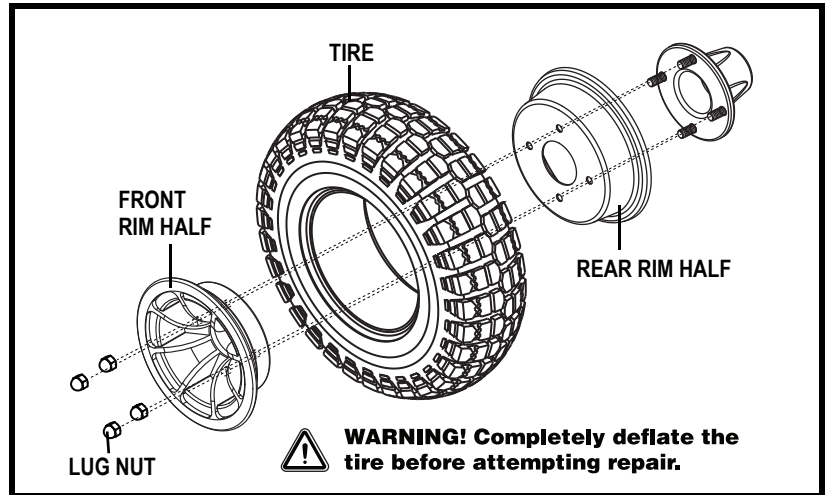

Figure 19. Quantum/Jazzy 1450 Series Drive Wheel Disassembled Wheel
6. Remove the screws and separate the front and rear rim. **See figure 19.**
10. Reinstall the four (4) lug nuts onto the wheel hub and tighten.